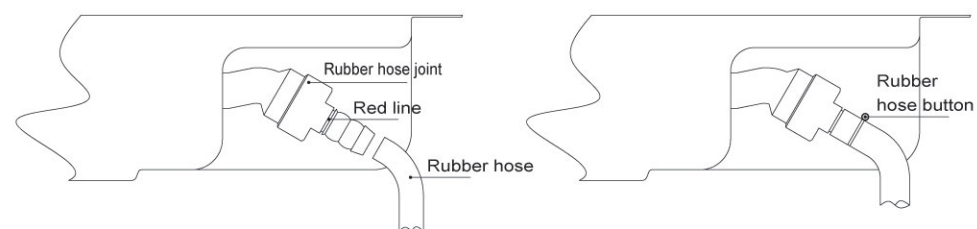

Fig.10
(1)Buckle the rubber hose button to the hose, then hitch the hose to stove's air intake joint, till the red mark, and tightly constrict the rubber hose button. (refer to Fig.10)
(2)Leak test: smear the joint part with tenuous and neutral cleanser(eg.soap subs), and open the general gas valve, if there is air bubble, please close the general gas valve soon, and repeat the action (1) and (2) until there is no air bubble.